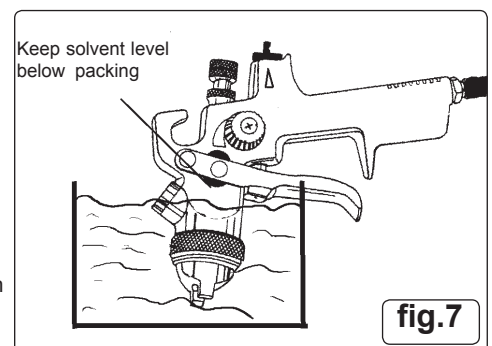

fig.8
- 6.1.2. Use the bristle brush (fig.8) and solvent to wash off accumulated paint.
Disassemble using the supplied spanner and socket (fig.8)